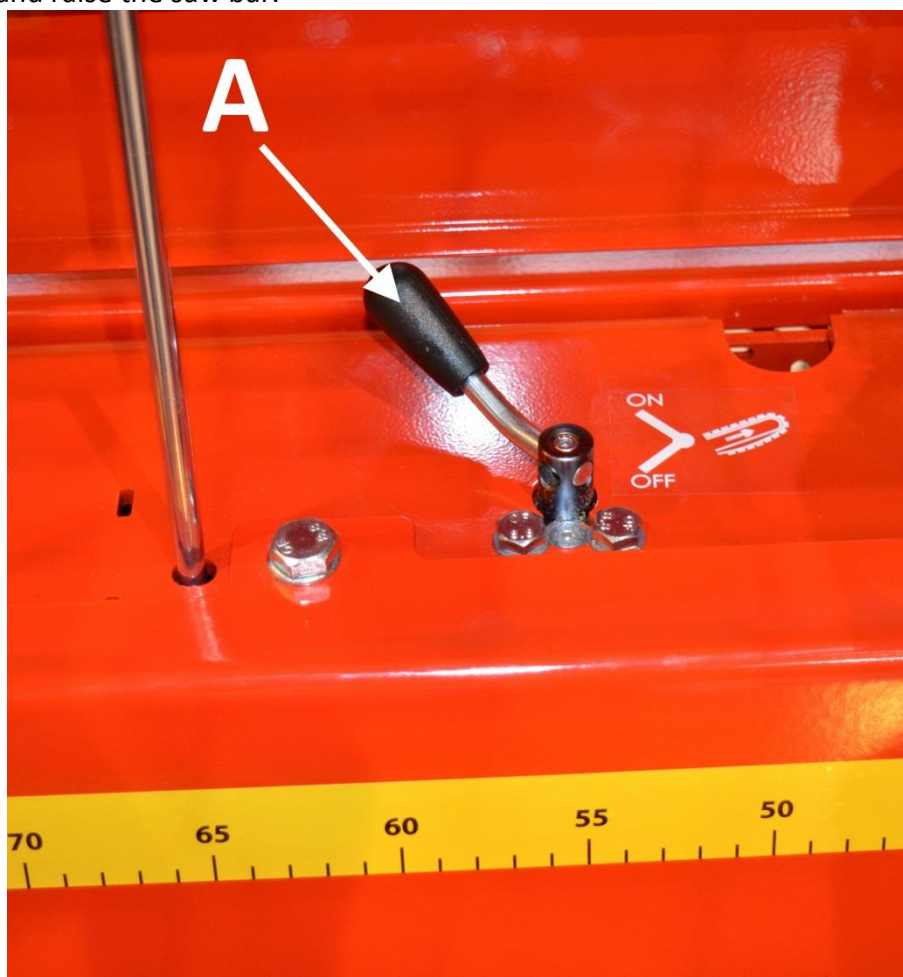

Figure 25.
2. Turn lever A (Figure 25) to the OFF position to release the pressure in the automatic cutting chain tensioner.
5. Turn lever A (Figure 25) to the ON position, as shown in Figure 25.